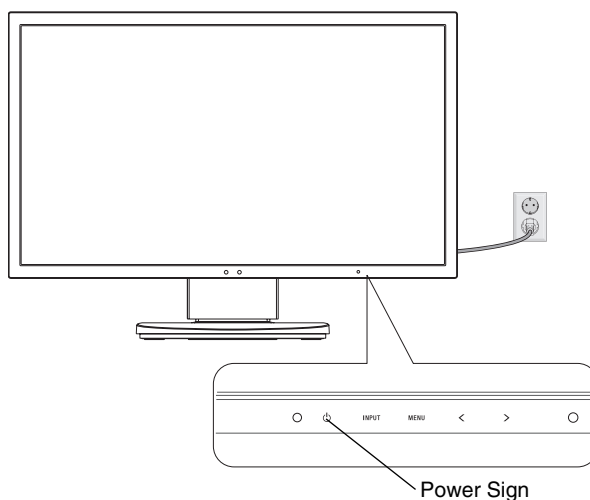

Figure E.1
- Turn on the computer, then turn on the monitor by pressing the power sign on the front bezel (**Figure E.1**).